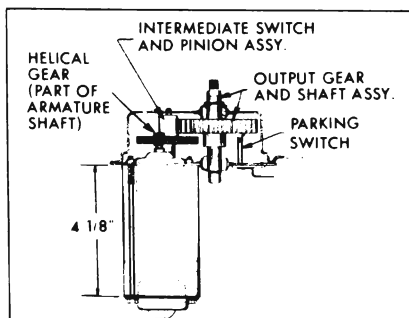
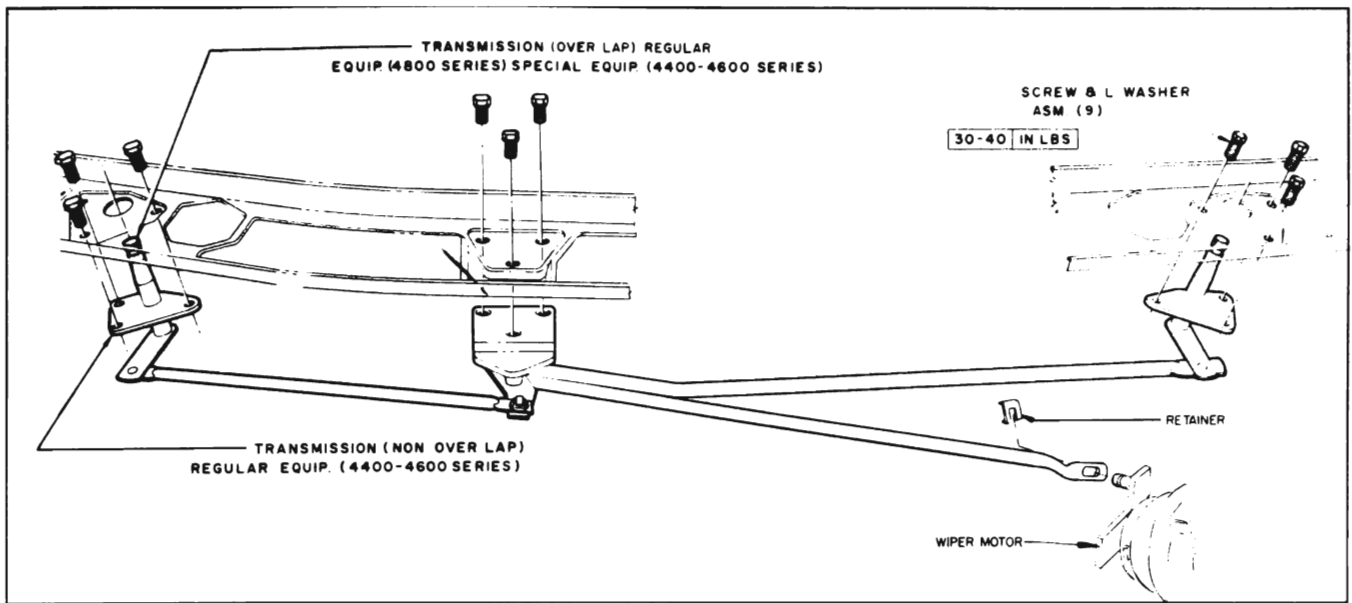
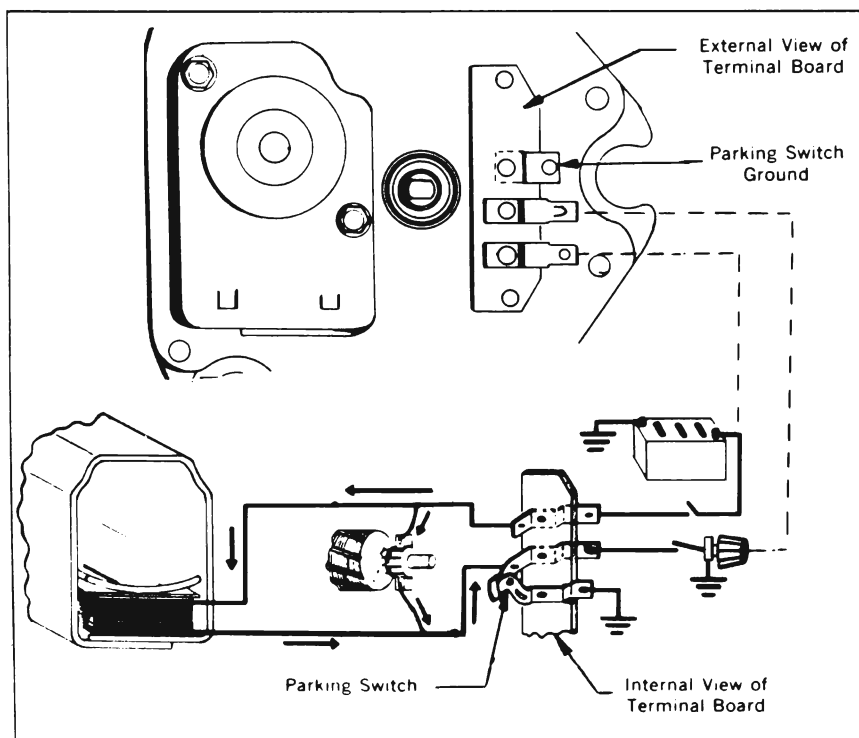

Figure 10-100—Typical View of Gear Train
Figure 10-101—Windshield Wiper Transmission Installation
Figure 10-103—Single Speed Wiper Wiring Diagram
The gear train consists of a helical gear at the end of an armature shaft. The helical gear drives an intermediate gear and pinion assembly, the pinion of which drives an output gear and shaft assembly. See Figure 10-100. The crank arm is attached to the shaft of the output gear and drives the two wiper transmissions through connecting link arms. See Figures 10-101 and 101-A.
and stopping of the wiper. The switch mounted on the dash controls starting the wiper. The park switch, which is located in the wiper gear box (Figure 10-100), controls stopping the wiper. The operation of the park switch is explained in the following paragraph. (Refer to the wiring diagram in Figure 10-103).
(1) Make sure wiring harness is properly attached to wiper terminals and dash switch. See Figure 10-103.
(2) Make sure wiper ground strap is properly connected to wiper and car body.
(3) Make sure switch is mounted securely in dash.
(4) Check fuse.
(a) Remove wiper from car and check for a dirty or broken park switch. (See Figure 10-100 for park switch location.)